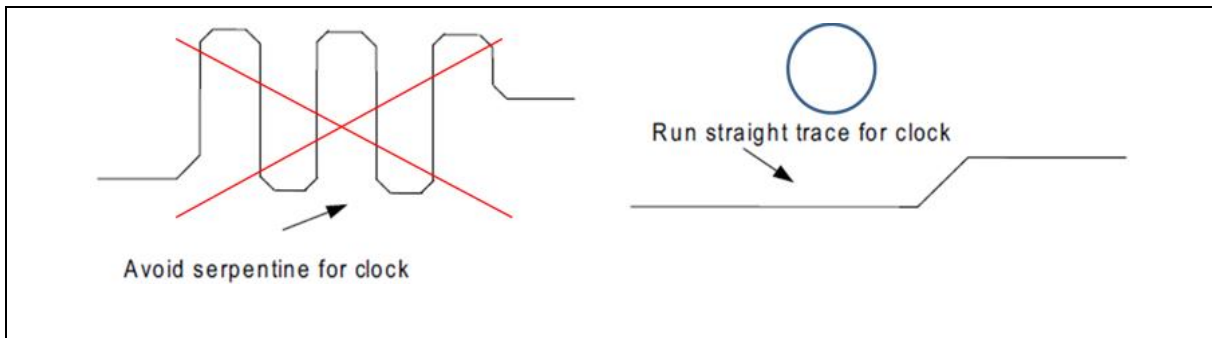

Figure 14-3 Run Straight Trace for Clock
- Run the clock trace as straight as possible and avoid using serpentine routing. See Figure 14-3.